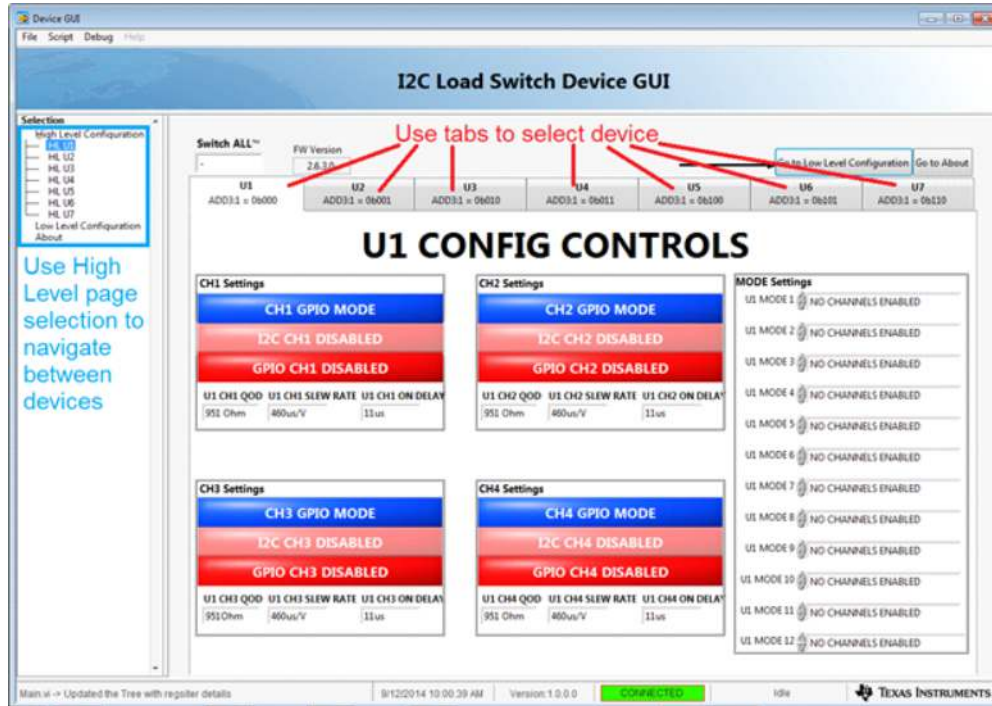

Figure 7. Ways to Select Device Control
- (A) You can navigate to the controls for U1 – U7 in two different ways.
- (B) The first way is by clicking the device tab (U1, U2, U3, etc.).
- (C) The second way is by clicking the high level functions on the left side of the screen, see Figure 7.
- (D) Be sure that the I2C address is properly configured using jumper points JP7, JP9, JP11, JP20, JP22, and JP23. The configured address should correspond to the address appearing on the specific device tab.